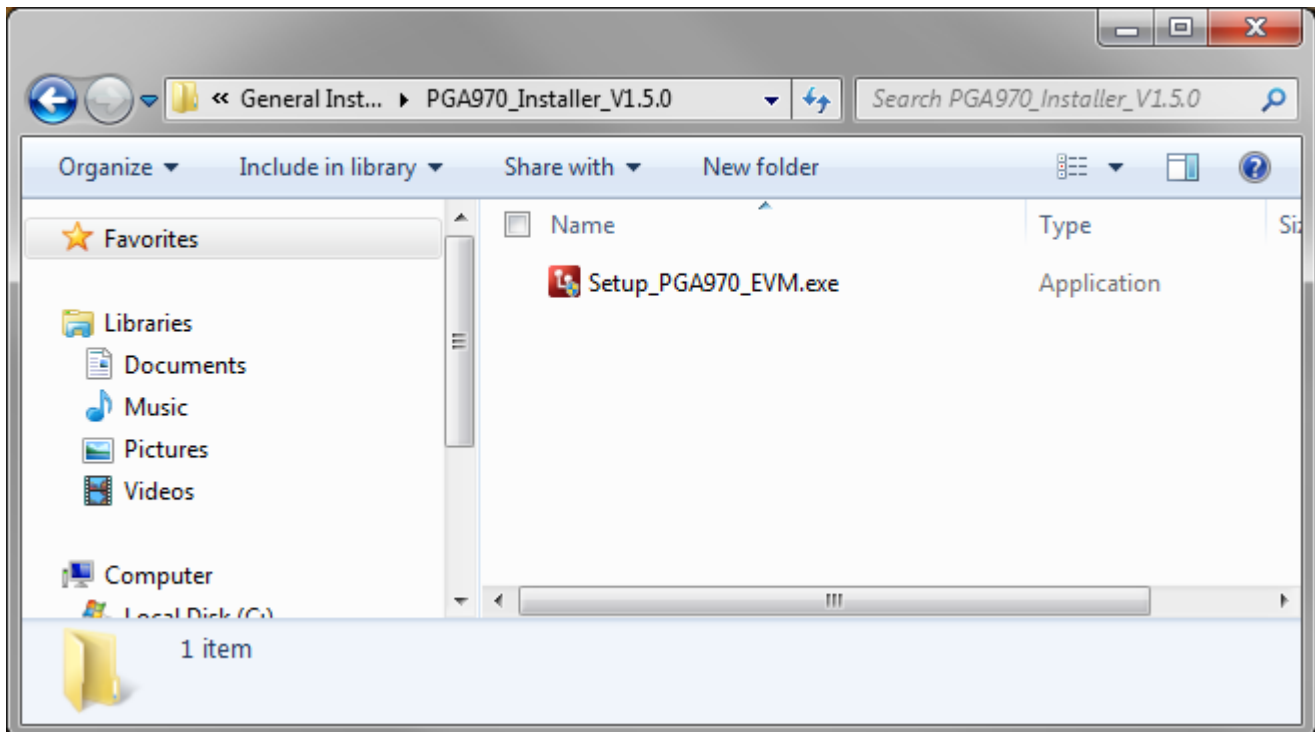

Figure 1-1. Setup_PGA970_EVM.exe
1. Double click on the Setup_PGA970_EVM.exe from the installer folder as shown in Figure 1-1.